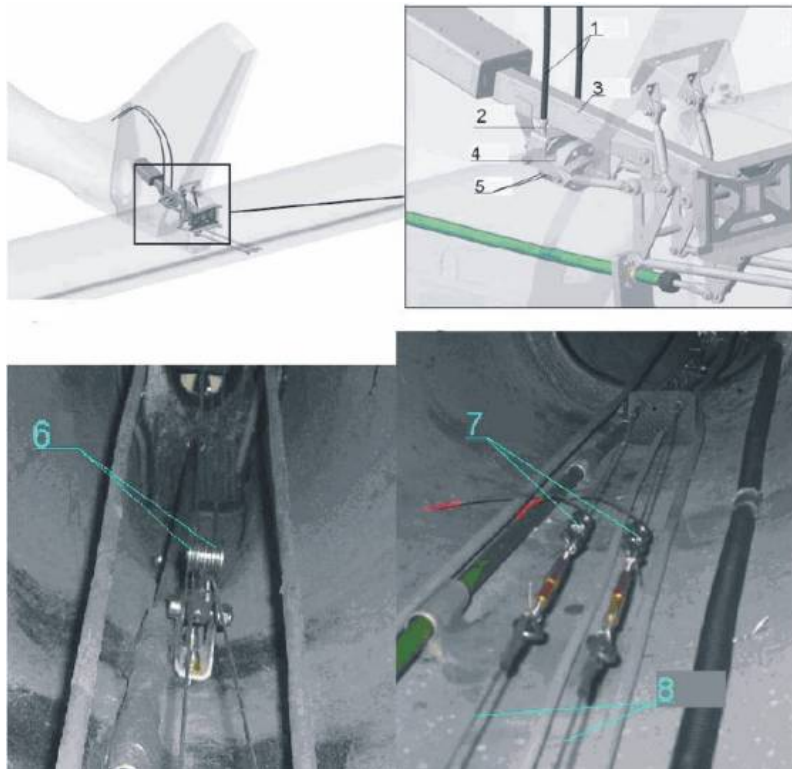

Fig. 55-10-7
9	Following Fig. 55-10-7 stretch the safety Bowden cables (1) and press them out by shrinking hose in the places of connection with Stabilator bracket (2).